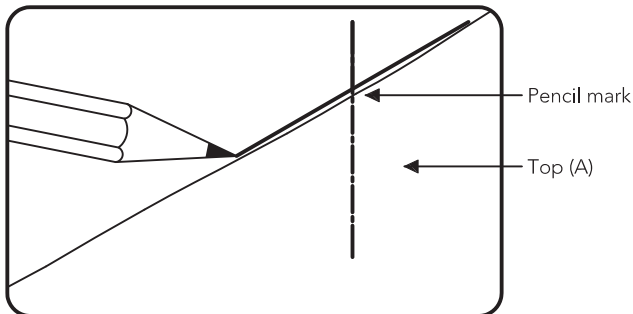

Figure 4
Mark wall with pencil just above Top (A) in center of unit. (See Figure 4)